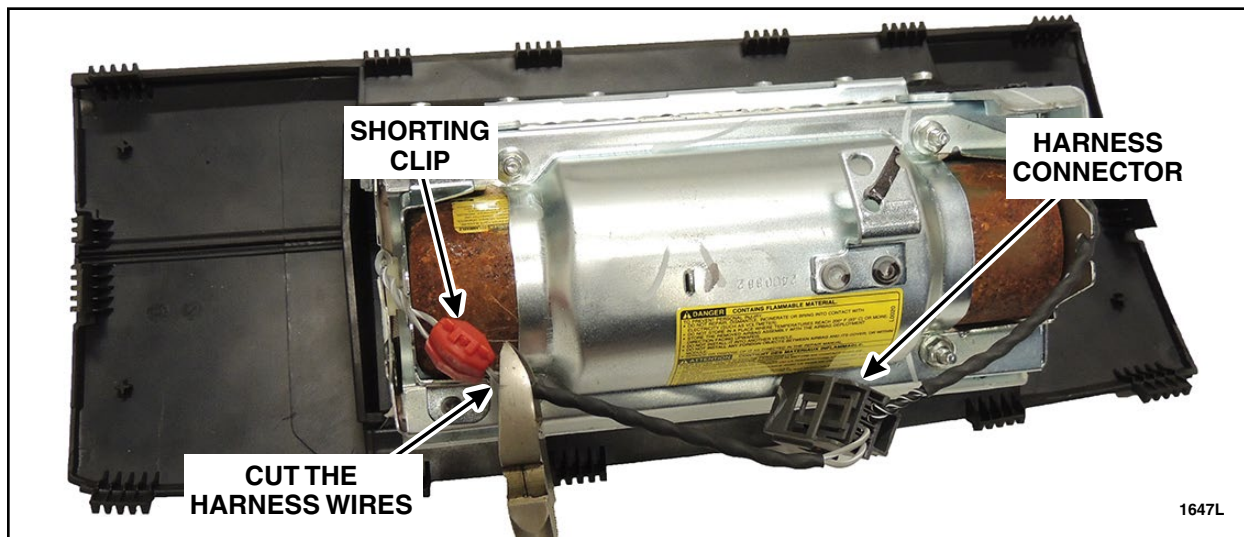

FIGURE 4
6. Cut the harness wires between the shorting clip and the harness connector. See Figure 4.